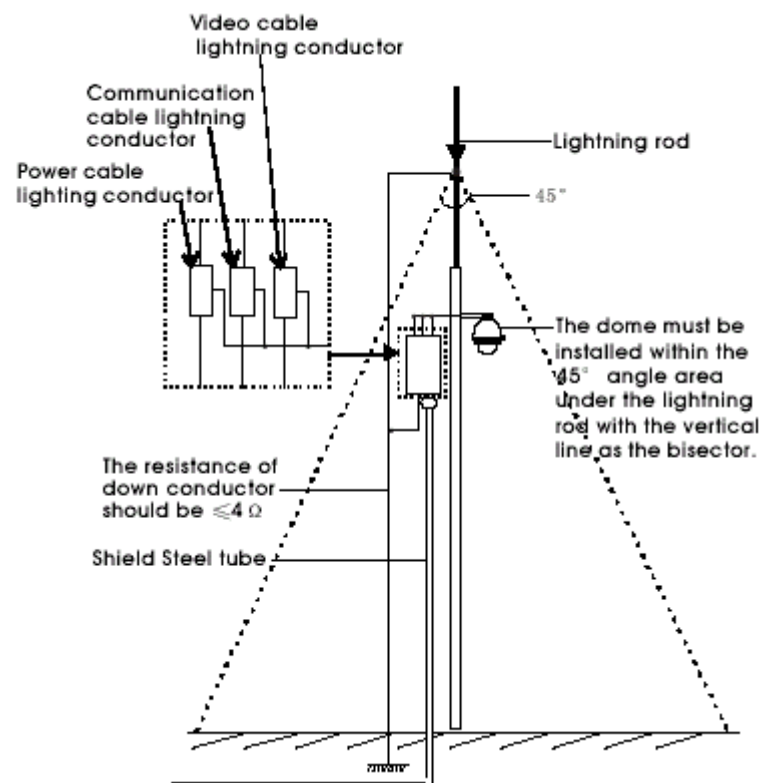

Figure 26
- The system must be grounded with equal potentials. The earth ground connection must satisfy anti-interference and electrical safety requirements and must not short circuit the high voltage electricity network. When the system is grounded separately, the resistance of the down conductor should be $\leq 4 \Omega$ and the sectional size of the down conductor should be $\leq 25\text{mm}^2$ (refer to Fig 26).